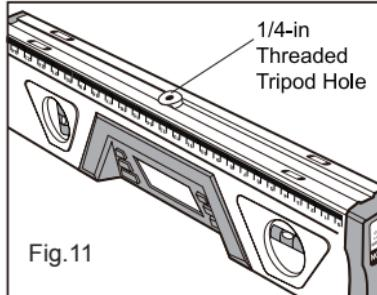

Fig.11
Operation with tripod (Figs.11,12 and 13)
- Screw the level to the tripod using the 1/4-in. threaded hole located in the center of the working surface of the level (see Fig. 11).